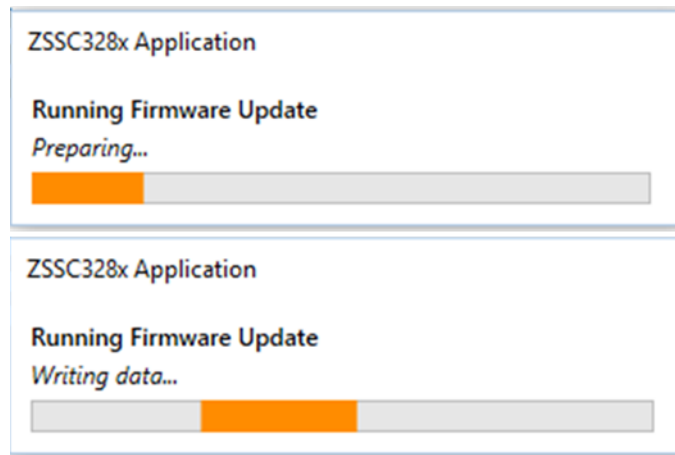

Figure 193. FW Update Operation
2. Click the “Start Firmware Update” button. The ‘ZSSC328x Application’ window pops-up (see Figure 193) The button is enabled if all criteria to perform a FW update is met. During the update, no other action can be performed in the GUI.